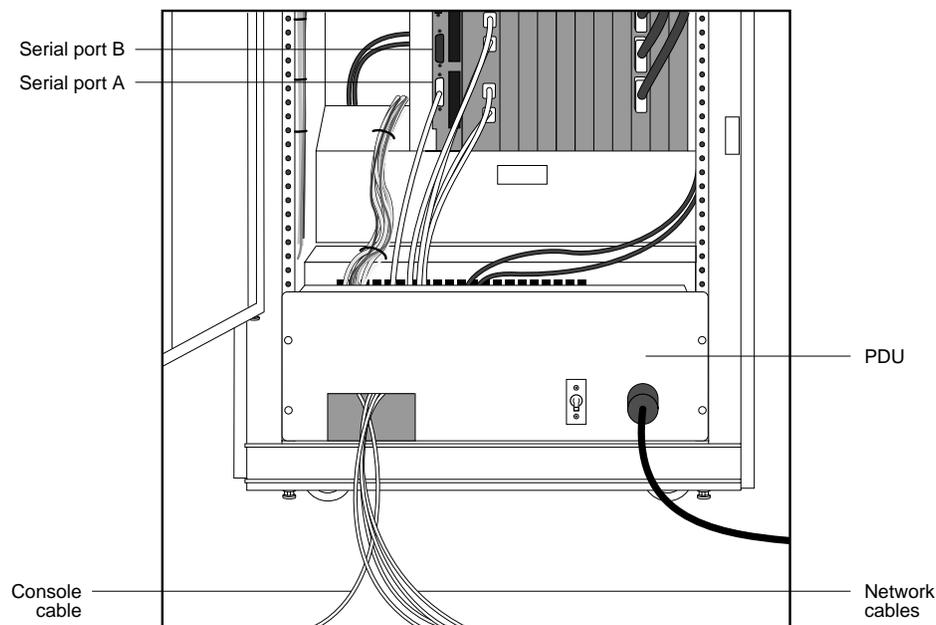

Figure 17. Routing cables to the NetServer
3. For NS 7000/650, NS 7000/700, and NS 7000/800 Series NetServers, route each end of the network cable through the opening in the PDU at the back of the cabinet (see Figure 17).